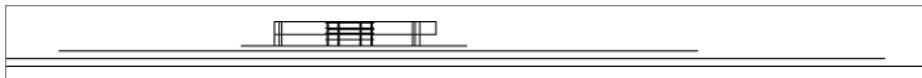

FIGURE 17.4 The contour lines as viewed from the side
4. Select the Front or Left face of the ViewCube to view your model from the side and verify that each of the contours are lower than the previous (see Figure 17.4).